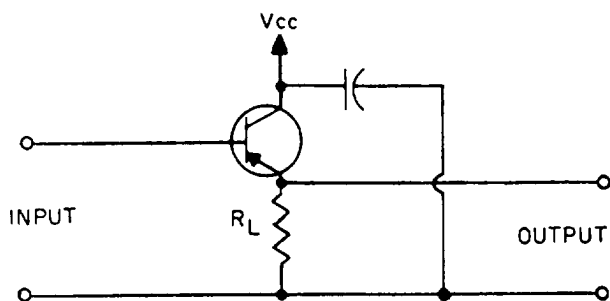

Figure 4-12.-Simplified schematic of a CC preamplifier.
The easiest configuration to use would be the common collector (CC). The input resistance of the CC configuration is high because of the large negative voltage feedback in the base-emitter (BE) circuit. As the input voltage rises, the opposing voltage developed across the load resistance (fig. 4-12) substantially reduces the net voltage across the BE junction. By this action, the current drawn from the signal source remains low. From Ohm's law, you should know that a low current drawn by a relatively high voltage represents a